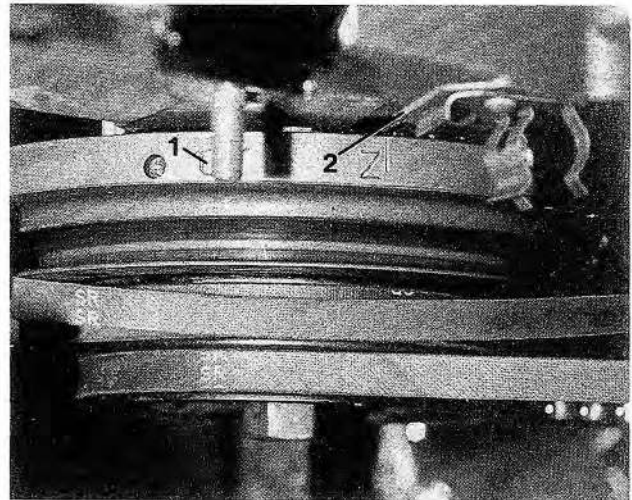

Fig. 4-61. Top Dead Center (TDC or O/T) mark (1) on vibration damper should be aligned with mark on drive belt cover (2).
21. Using a socket wrench on the center vibration damper (crankshaft pulley) bolt, rotate the crankshaft clockwise until the engine is at Top Dead Center (TDC or O/T) of the No. 1 cylinder. See Fig. 4-61.